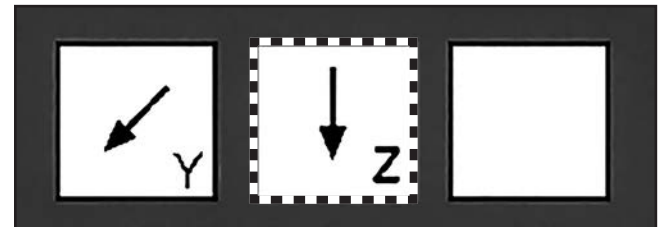

Figure 88. Down Z-axis traverse key.
3. Press and hold down Z-axis traverse key until spindle reaches lowest point of travel and activates soft limit (see **Figure 88**).